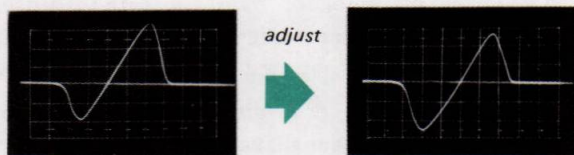
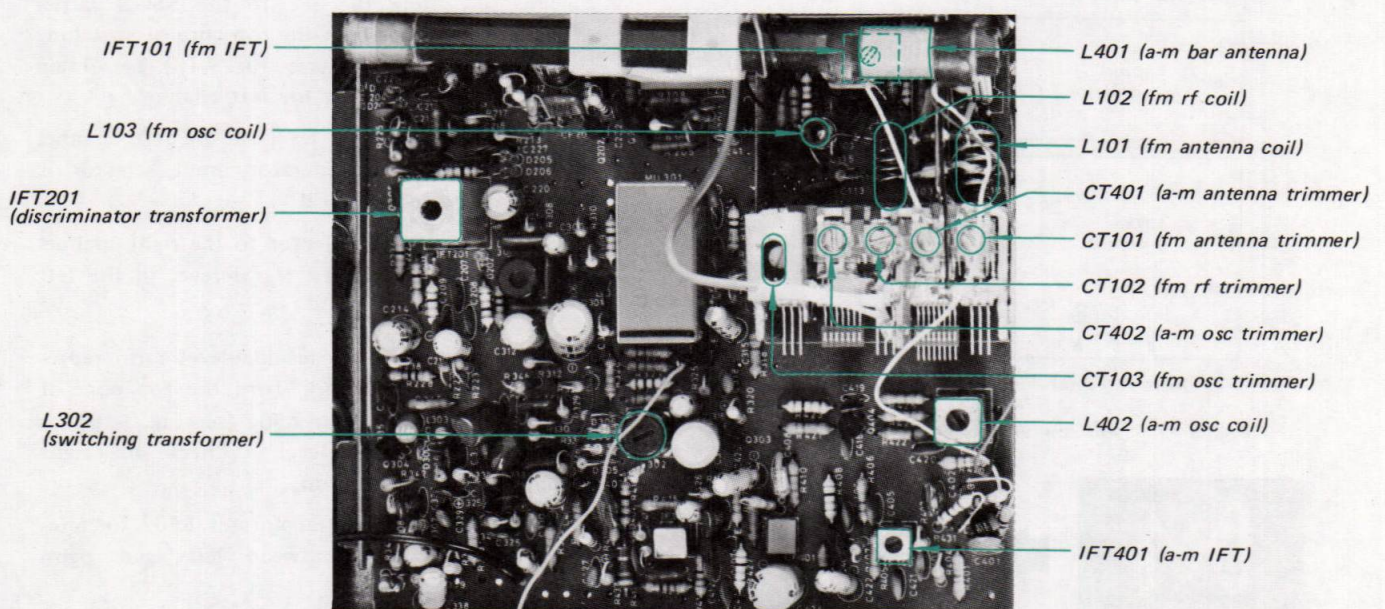
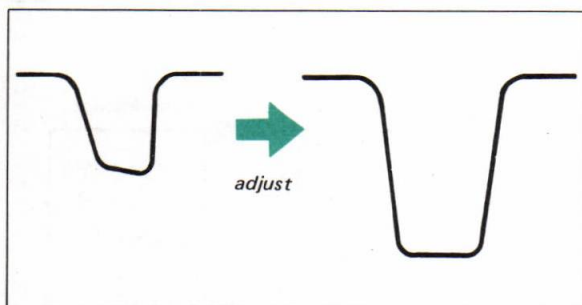
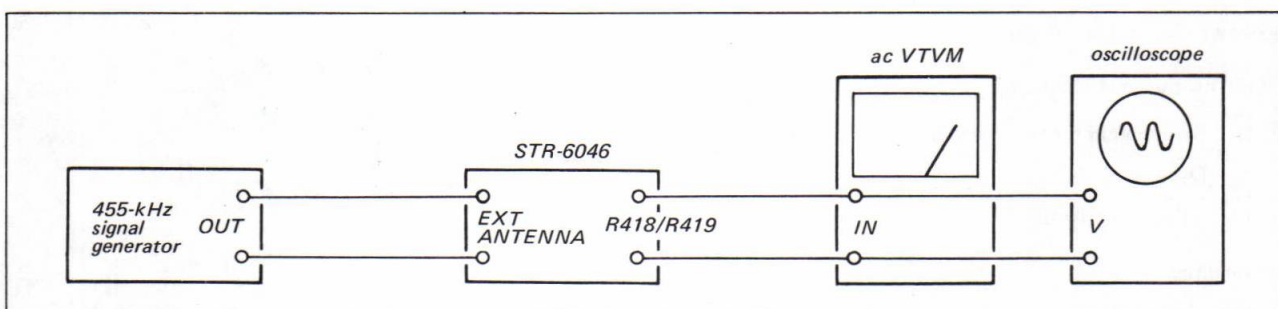

Fig. 3-6. "S" curve response
Fig. 3-10. Adjusting parts location
Fig. 3-16. A-m i-f response
Fig. 3-17. Test setup for a-m i-f alignment by rf signal generator
4. Turn the top core (secondary side) of discriminator transformer IFT201 (see Fig. 3-10) with an alignment tool to obtain the "S" curve response, and equalize the positive and negative peaks of the "S" curve response, as shown in Fig. 3-6.
5. Adjust i-f transformer IFT101 (see Fig. 3-10) and primary side of discriminator transformer (IFT201 bottom core) to obtain a maximum-amplitude "S" curve response.
4. If the discriminator transformer IFT201 (see Fig. 3-10) is not aligned correctly, 400-Hz ripple will be observed as shown in Fig. 3-8.
7. Turn the core of fm IFT101 (see Fig. 3-10), and the primary side of discriminator transformer IFT201 to obtain the maximum output.
2. Precisely tune the set to the SSG's carrier frequency then turn the top core of switching transformer L302 (see Fig. 3-10) to obtain maximum output at the left channel.
5. The output-level to residual-level ratio represents the separation. Turn the top core of switching transformer L302 (see Fig. 3-10) for minimum residual level. Check the right channel for separation.
5. Turn the top core of a-m IFT401 (see Fig. 3-10) to obtain a maximum and symmetrical response as shown in Fig. 3-16.
3. With the equipment connected as shown in Fig. 3-17, turn the top core of a-m IFT401 (see Fig. 3-10) to obtain the maximum output.